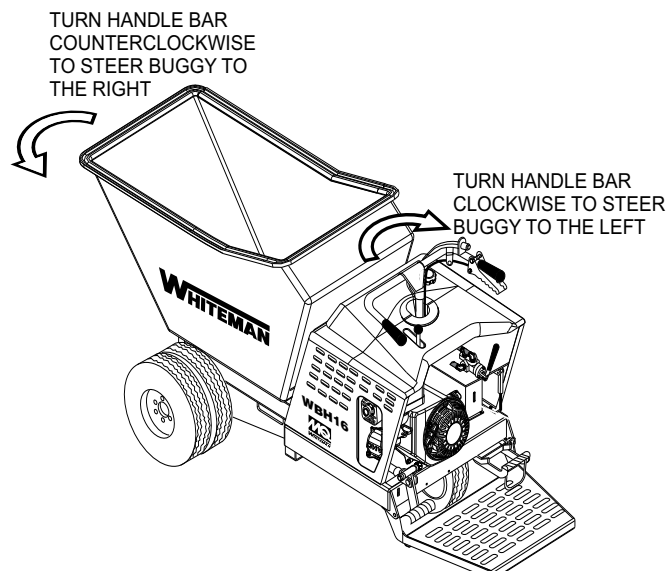

Figure 23. Steering the Buggy
1. To turn left when traveling in the forward direction, turn the handle bar clockwise (Figure 23).